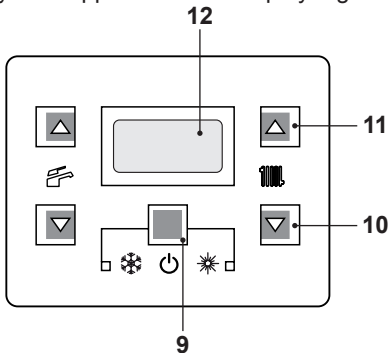

Fig. 2.3
- Press the key 9 for 2 seconds until  symbol appears on the display Fig. 2.3.
The output temperature of C.H. water can be adjusted by pressing keys 10 (reduce) and 11 (increase) (Fig. 2.3) from a minimum of about 25°C to a maximum of about 85°C. Press one of the two keys once to display
However, if the ambient temperature is not comfortable, the flow temperature of the heating system can be adjusted by $\pm 15^{\circ}\text{C}$ by acting on keys 10 (reduce) and 11 (increase) (Fig. 2.3).